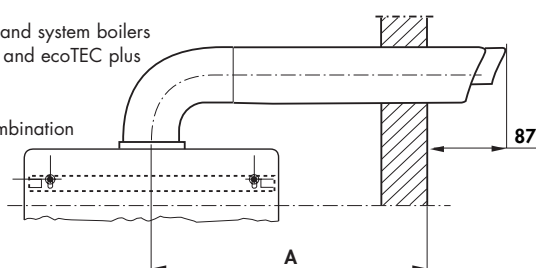

Fig. 3.16
- Measure the distance from the outside face of the wall to the centre of the fan outlet on the boiler (fig. 3.16).